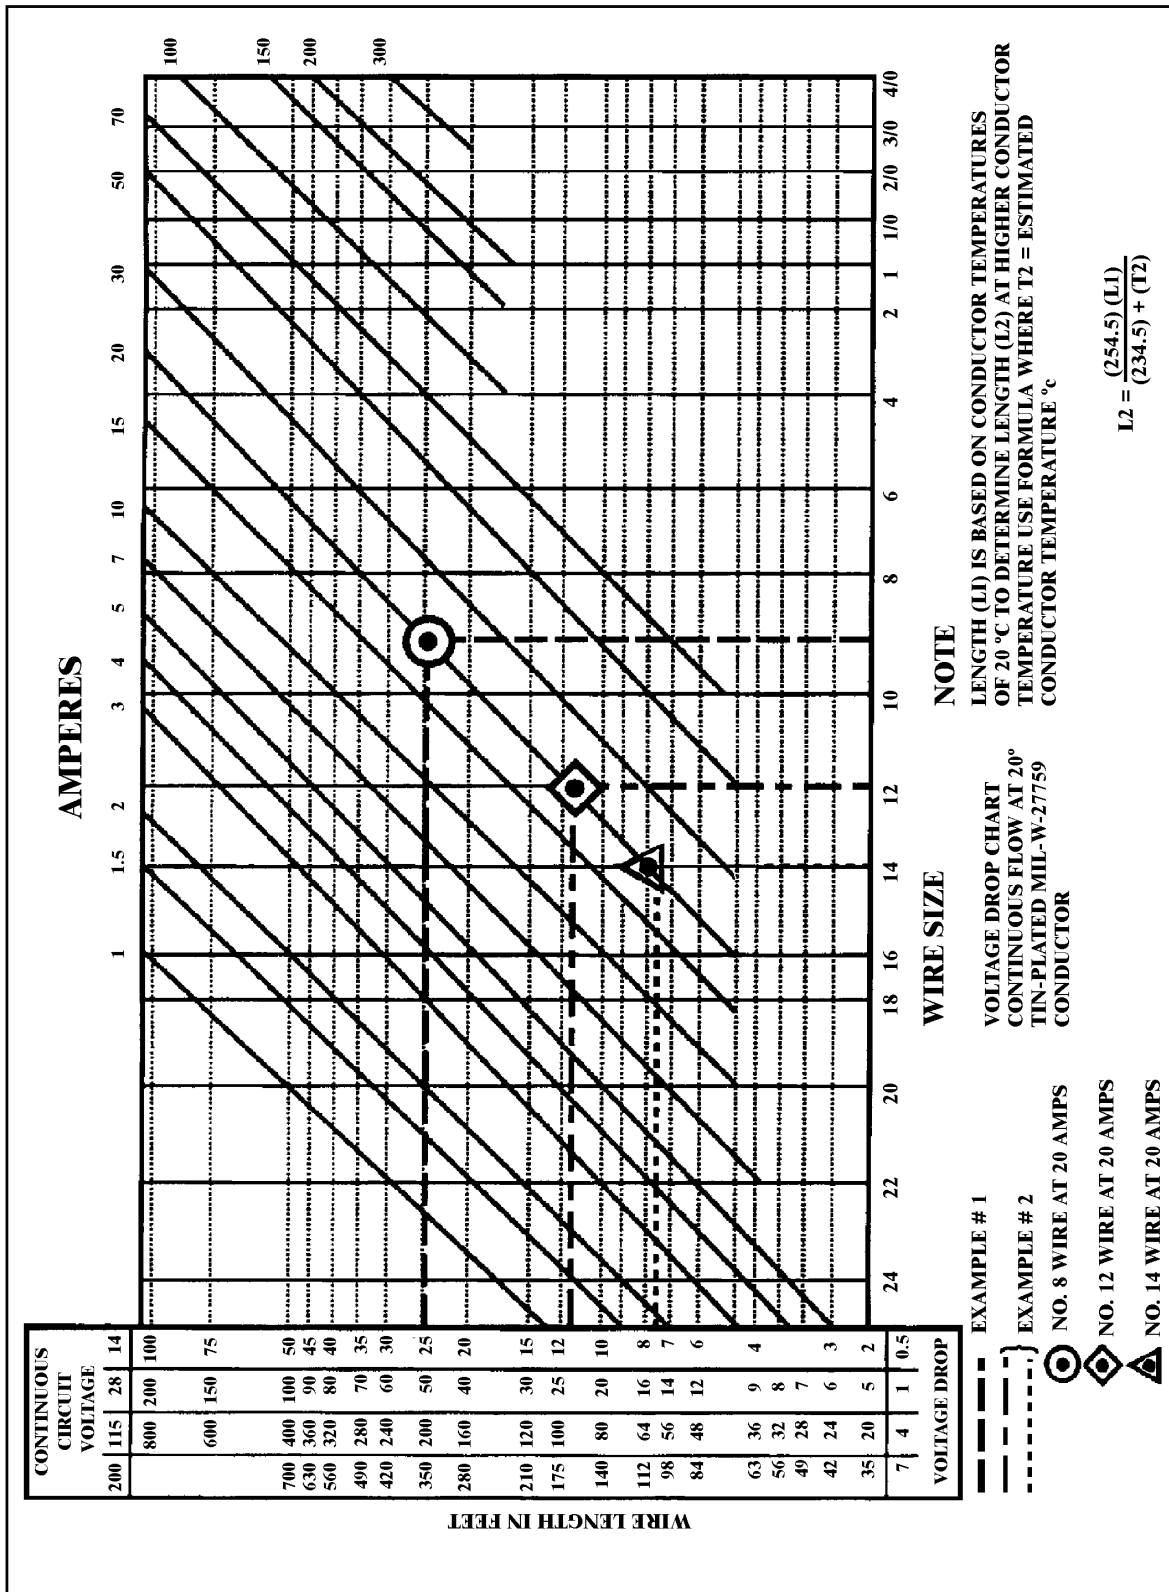
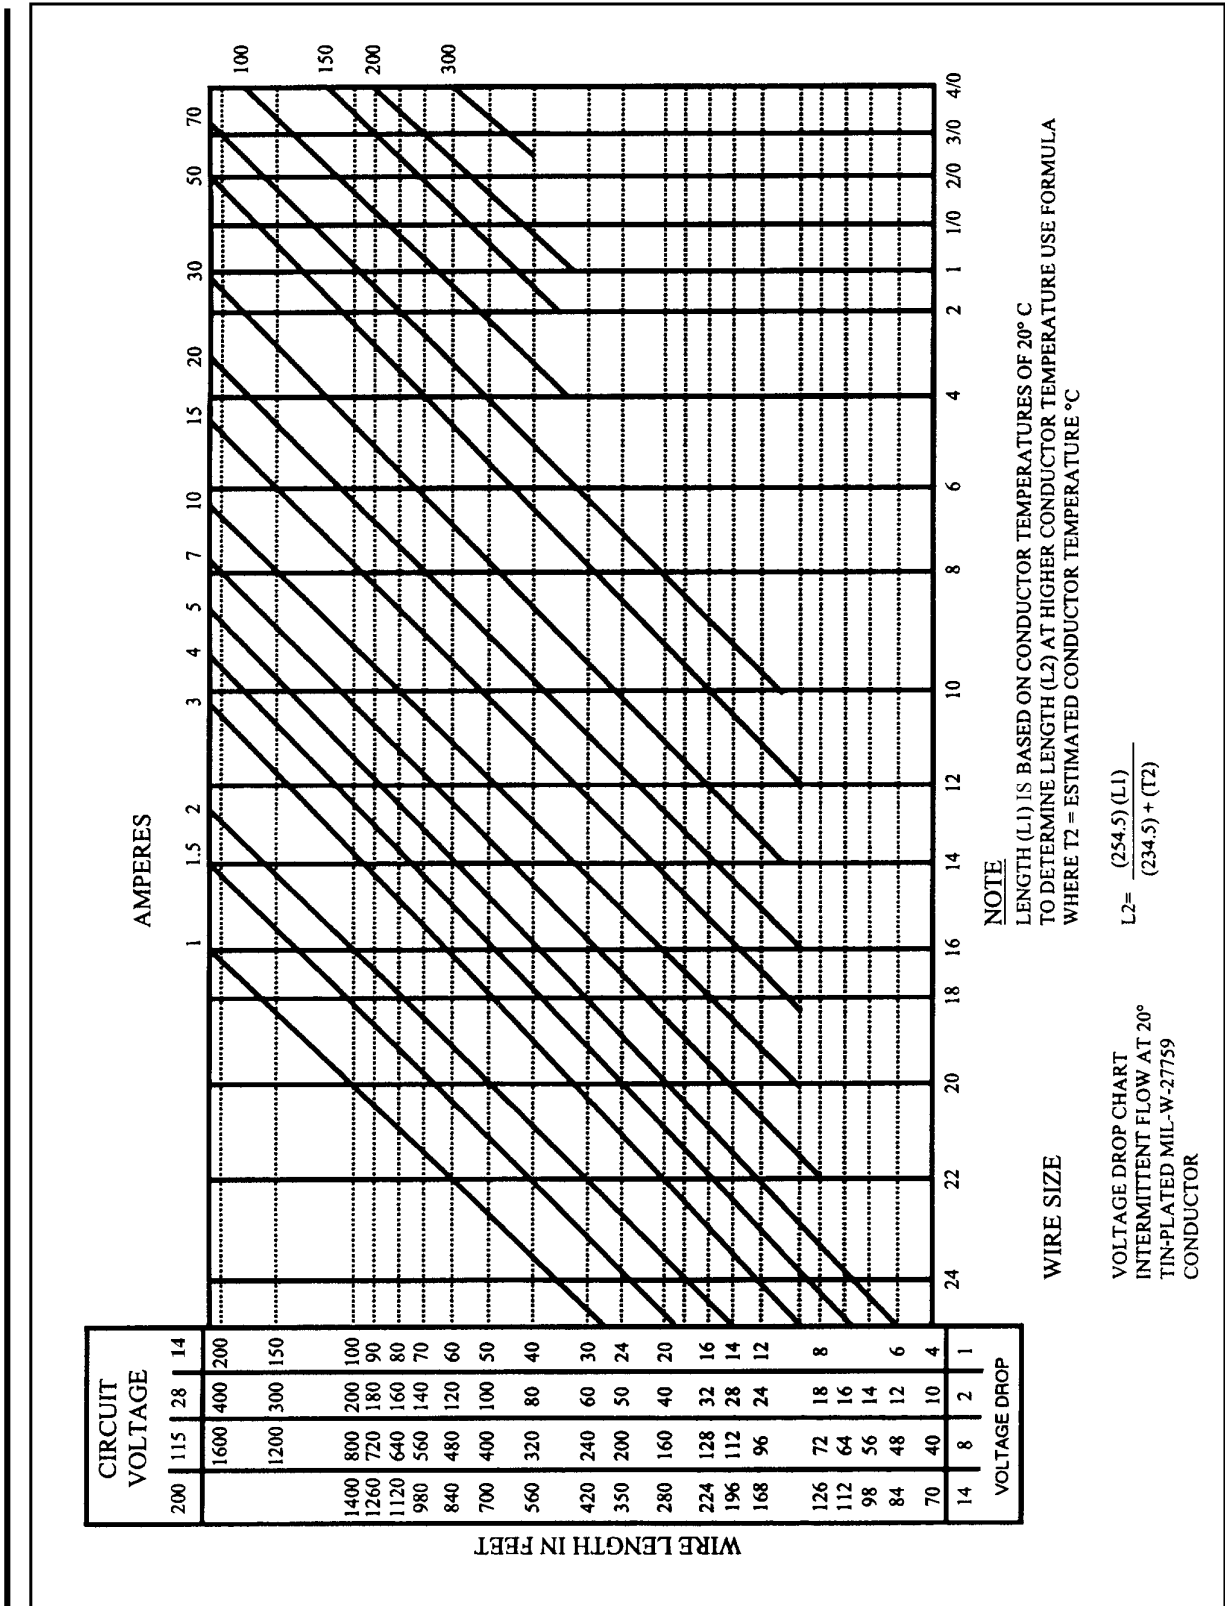

FIGURE 11-2. Conductor chart, continuous flow.
FIGURE 11-3. Conductor chart, intermittent flow.
(1) The wire size should be sufficient to prevent an excessive voltage drop while carrying the required current over the required distance. (See table 11-6, Tabulation Chart, for allowable voltage drops.)
(2) The size should be sufficient to prevent overheating of the wire carrying the required current. (See paragraph 11-69 for allowable current carrying calculation methods.)
**b. Two Requirements.** To meet the two requirements (see paragraph 11-66b) in selecting the correct wire size using figure 11-2 or figure 11-3, the following must be known:
- (1) The wire length in feet.
- (2) The number of amperes of current to be carried.
- (3) The allowable voltage drop permitted.
- (4) The required continuous or intermittent current.
- (5) The estimated or measured conductor temperature.
- (6) Is the wire to be installed in conduit and/or bundle?
- (7) Is the wire to be installed as a single wire in free air?
**c. Example No. 1.** Find the wire size in figure 11-2 using the following known information:
- (1) The wire run is 50 feet long, including the ground wire.
- (2) Current load is 20 amps.
- (3) The voltage source is 28 volts from bus to equipment.
(4) The circuit has continuous operation.
(5) Estimated conductor temperature is 20 °C or less.
**STEP 3:** At this point, drop vertically to the bottom of the chart. The value falls between No. 8 and No. 10. Select the next larger size wire to the right, in this case No. 8. This is the smallest size wire that can be used without exceeding the voltage drop limit expressed at the bottom of the left scale. This example is plotted on the wire chart, figure 11-2. Use figure 11-2 for continuous flow and figure 11-3 for intermittent flow.
**d. Procedures in Example No. 1** paragraph 11-68c, can be used to find the wire size for any continuous or intermittent operation (maximum two minutes). Voltage (e.g. 14 volts, 28 volts, 115 volts, 200 volts) as indicated on the left scale of the wire chart in figure 11-2 and 11-3.
**e. Example No. 2.** Using figure 11-2, find the wire size required to meet the allowable voltage drop in table 11-6 for a wire carrying
L1=15.5 feet maximum run length for size #14 wire carrying 20 amps from figure 11-2
The size #14 wire selected using the methods outlined in paragraph 11-66d is too small to meet the voltage drop limits from figure 11-2 for a 15.5 feet long wire run.
$L_1 = 24$  feet maximum run length for 12 gauge wire carrying 20 amps from figure 11-2.
The resultant maximum wire length, after adjusting downward for the added resistance associated with running the wire at a higher temperature, is 15.4 feet, which will meet the original 15.5 foot wire run length requirement without exceeding the voltage drop limit expressed in figure 11-2.